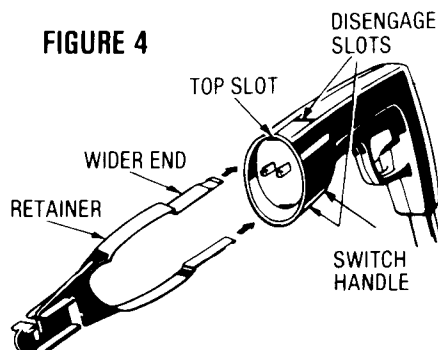

FIGURE 4
10. **EXTENSION CORD RETAINER**—to prevent disconnection of extension cord during operation, use extension cord retainer as described in this manual. (Figure 4).
1. Look into the end of the Switch Handle and you will see 2 slots. The **WIDER** end of the Retainer goes into the **TOP** slot. (Figure 4).
NOTE: The retainer may be removed from the tool for replacement if damaged, or if improperly assembled. Two "disengage slots" are located in the top and bottom of the handle. (Figure 4). To disengage the retainer, pull on each end of the retainer in turn while pushing a screwdriver gently into the appropriate slot.